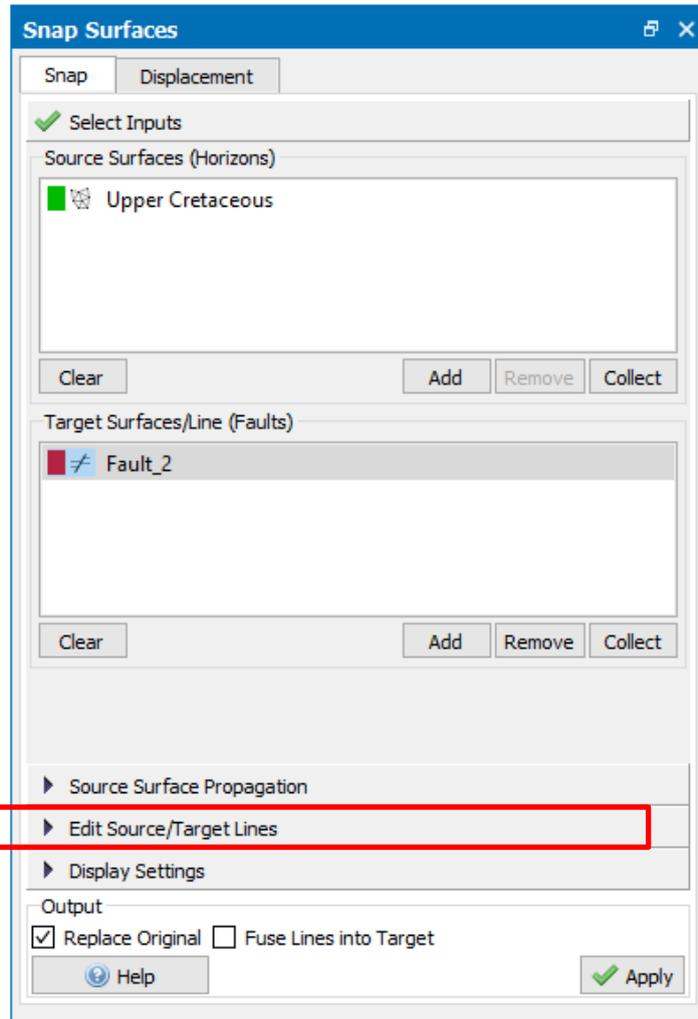
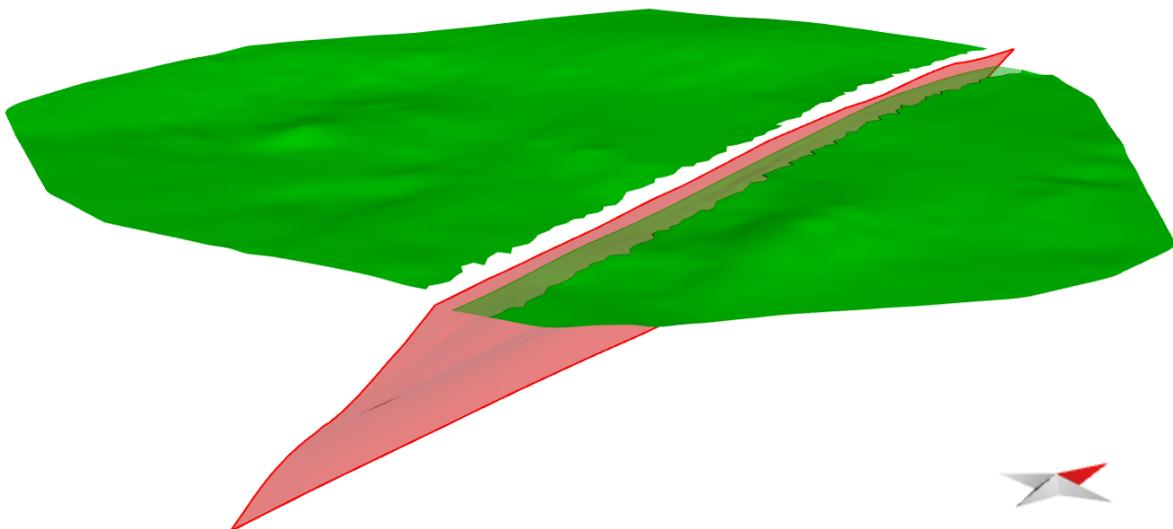

Figure 5. Snap toolbox set up for snapping Upper Cretaceous footwall to Fault 2.
Figure 6. Preview of the Upper Cretaceous footwall area to be snapped to Fault 2.
9. Collect one of the horizons into the **Source Surfaces** box and **Fault 2** into the **Target Surfaces** box. Figure 5 displays the toolbox set up for the Upper Cretaceous footwall. If necessary, use **Edit Source/Target Lines** to adjust the extent of the area to be snapped (tab highlighted with red rectangle in Figure 5). Once adjusted, the previewed area to be snapped will look like Figure 6.